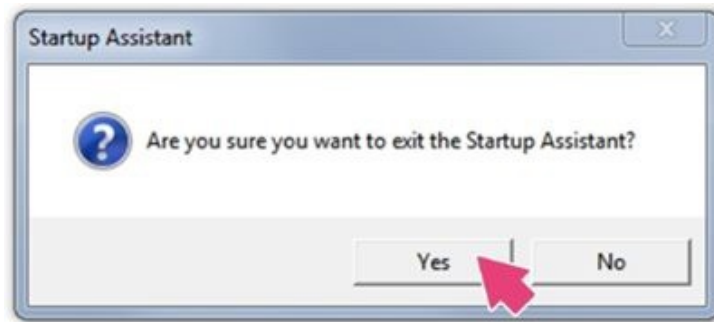

Figure 107
94. Confirm you would like to exit by selecting **Yes**. See Figure 107.